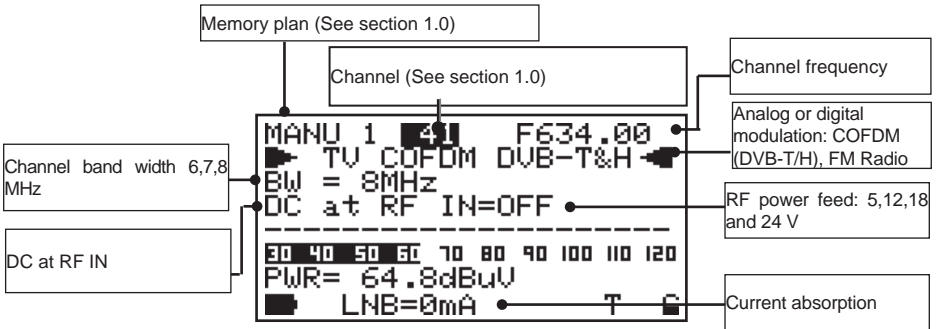

Fig. 5.1 Digital signals first measurement level.
- 5) If you press briefly the "HOME" key [23], the meter automatically returns to the first measurement level shown in Fig. 5.1, regardless of the active measurement level.
- 5) If you briefly press the "HOME" key, the meter automatically returns to the first measurement level shown in Fig. 5.1, regardless of the active measurement level.